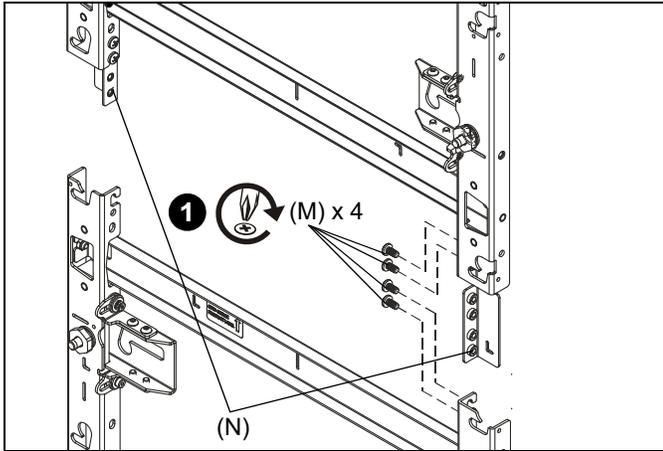

Figure 4
1. Add the vertical connector (N) to the top or bottom of the mount, and fasten with two 1/4-20 x 1/2" Phillips pan head screws (M) per vertical connector. (See Figure 4)